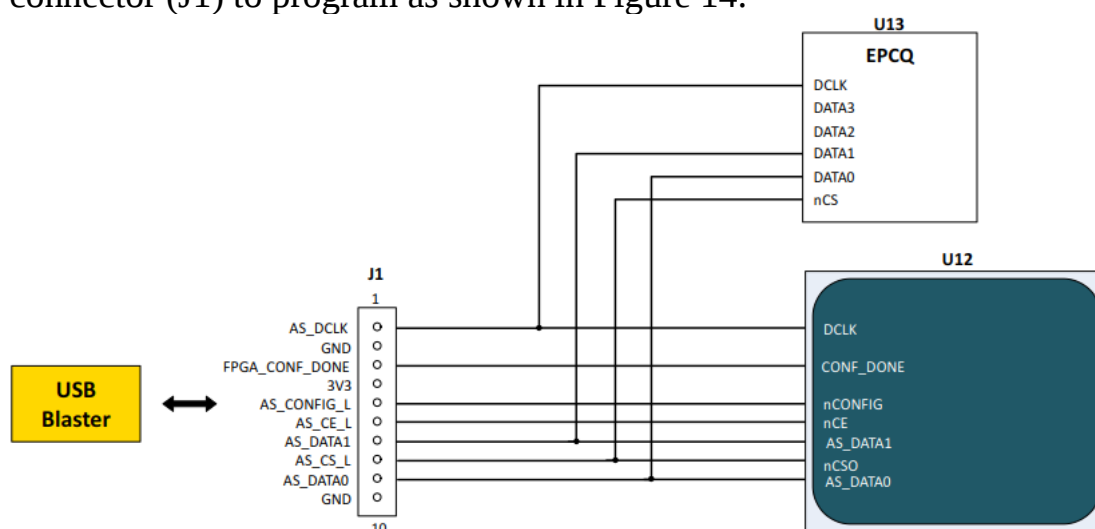

Figure 14 : Direct Programming
The direct programming uses the Active-Serial (AS) interface. Connect USB Blaster to header connector (J1) to program as shown in Figure 14.